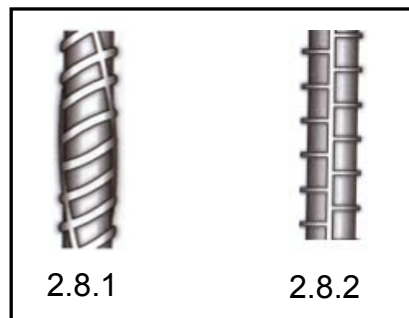

FIGURE 2.8
2.8 FIGURE 2.8 below shows two types of reinforcing bars that can be used for reinforcing concrete. Study the figure and name EACH of the reinforcing bars. Write down the answer next to the question number (2.8.1–2.8.2) in the ANSWER BOOK.